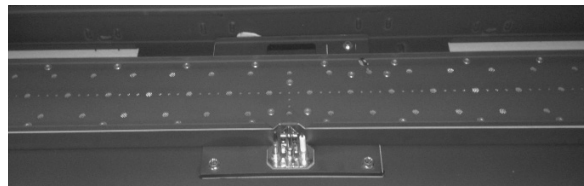

Figure 1.
Step 3: Remove hearth (bottom) panel by lifting it up and out. Figure 1 shows panel removed.